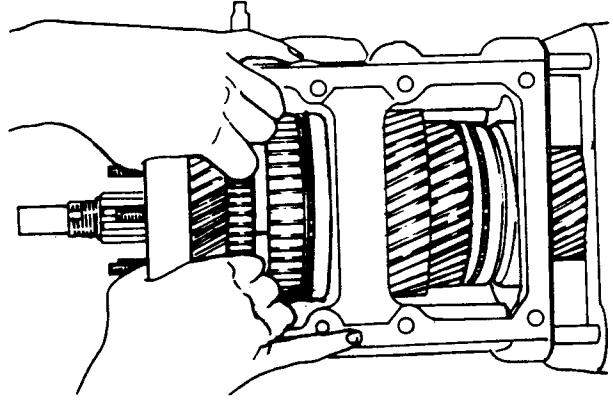

Fig H1.65
- (4) Refer to Fig H1.65. Hold the gearbox casing and at the same time maintain the 1st gear in position as well as the adjusting washers. Introduce the casing so that the studs enter in the holes of the clutch housing. The 1st speed gear and the washer should be introduced without difficulty on the main shaft.
- (5) Fix the clutch housing to the gearbox casing with nuts, and tighten them to a torque of 60 to 75 N.m.
- (6) Replace the gearbox rear oil seal retainer (see Sub-sub-section H1.3, Chapter 10).